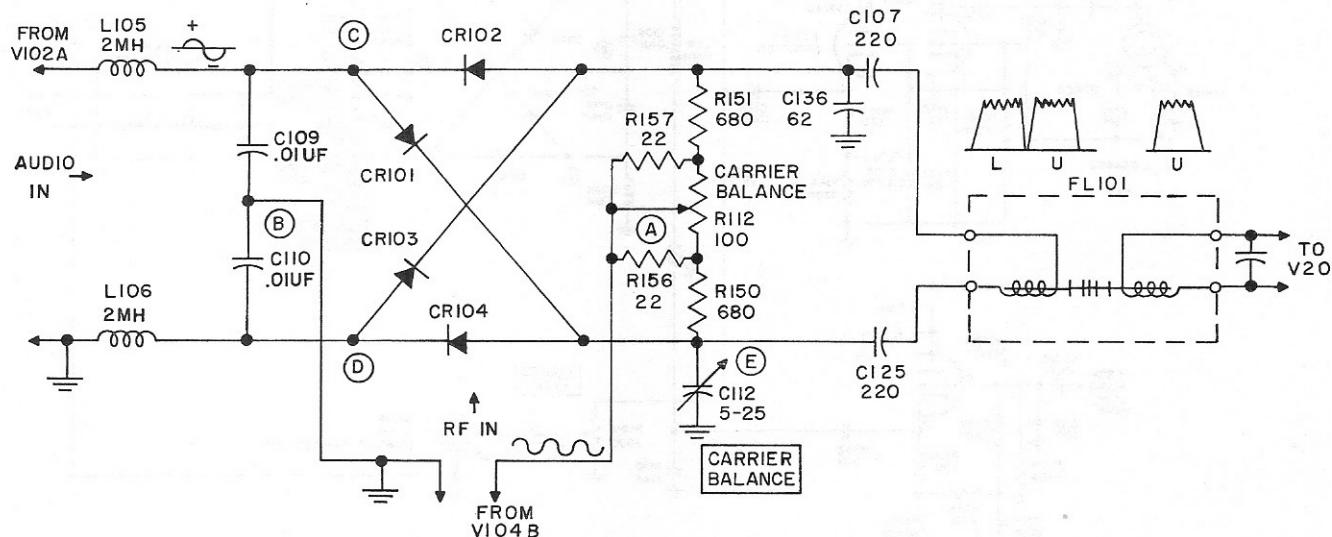
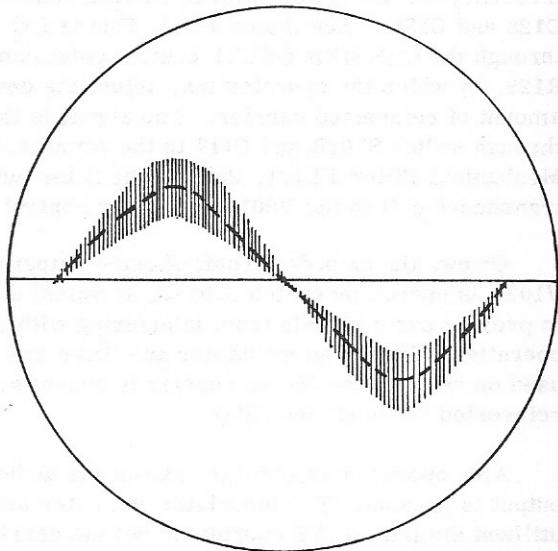

Figure 4-4. Balanced Modulator and FL101 Mechanical Filter, Simplified Schematic Diagram
Figure 4-5. Balanced Modulator Output,
(1) LFO. For the development of single sideband signals, the 250-kc output of V104A is coupled through condenser C130 into the grid of the 250-kc amplifier, V104B. The output of V104B is coupled from the cathode through C128 to point (A), and from the ground to point (B) of the balanced modulator, to provide an r-f input to the modulator. (See figure 4-4.)
(2) BALANCED MODULATOR. The balanced modulator is a "ring type" modulator. It receives two signal inputs, the 250-kc carrier signal at points (A) and (B) in figure 4-4, and the audio signal at points (C) and (D). The purpose of the modulator is to suppress the carrier frequency, and to pass only the upper and lower sideband frequencies resulting from modulation by the impressed audio. As shown by the component values, the modulator is a low impedance unit with two points of "balance" adjustment at points (A) and (B) in figure 4-4. R112 is adjusted for voltage balance, and C112 for capacity balance of the 250-kc r-f voltages applied.
Although the ring is balanced insofar as the r-f carrier voltage is concerned, the audio input essentially "modulates" the carrier by causing unbalance of the ring voltages at an audio rate, relative to the positive and negative alternations of the audio cycles. Thus, on one audio alternation, for example, the CR101 plate is biased positive, causing its impedance to be lowered, while the CR102 cathode is biased positive, causing its impedance to be increased. On the following alternation, the impedance unbalance is the opposite. Thus, the carrier is "modulated" to produce two sidebands, but the carrier is suppressed by the ring balancing action. Assuming a 1000 cps audio note, the modulator output at the input of FL101 would be sideband frequencies of 249 kc and 251 kc, with the 250 kc carrier suppressed. (See figure 4-4.) R112 is adjusted to balance the inherent variations in R150 and R151.
Although figure 4-4 shows the modulator output in a practical "U and L" manner, the actual output waveform, when viewed on an oscilloscope, would be similar to figure 4-5, representing the 249-kc and 251-kc sideband signal plus the audio of the example stated in the preceding paragraph.
Within the filter, a nickel wire in the input transducer coil vibrates mechanically and transmits this energy to the first of a series of nickel alloy discs. The mechanical vibration of the first disc is coupled to succeeding discs by means of nickel-wire coupling elements. Biasing magnets at either end of the filter polarize the filter elements to prevent frequency doubling in much the same manner as biasing magnets in a headphone prevent the phone diaphragm from bending the same direction for both alternations of an a-c cycle. The mechanical vibration of the last disc is coupled to a magnetostriction transducer element identical to the one used at the input of the filter. By a reverse principle of magnetostriction, the mechanical vibrations of the nickel-wire transducer core is converted to electrical impulses. Each of the discs used has a mechanically resonant "Q" exceeding 2000. Six of the discs are overcoupled to produce a mechanically-shaped response curve with a flat top and almost vertical sides. Thus the filter passes a band of frequencies very little wider than the flat top of the selectivity curve. In the case of FL101 Mechanical Filter, this band of frequencies is approximately 3 kc wide and centers on 250 kcs. Figure 4-4 shows a practical example of the FL101 Mechanical Filter output wave containing all the USB frequencies however, on an oscilloscope, the